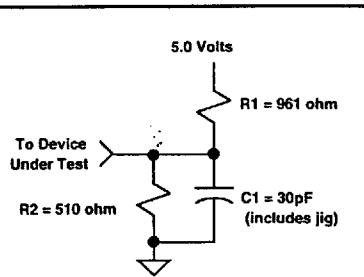

Figure 7: AC Test Load A
10. With load specified in Figure 7.